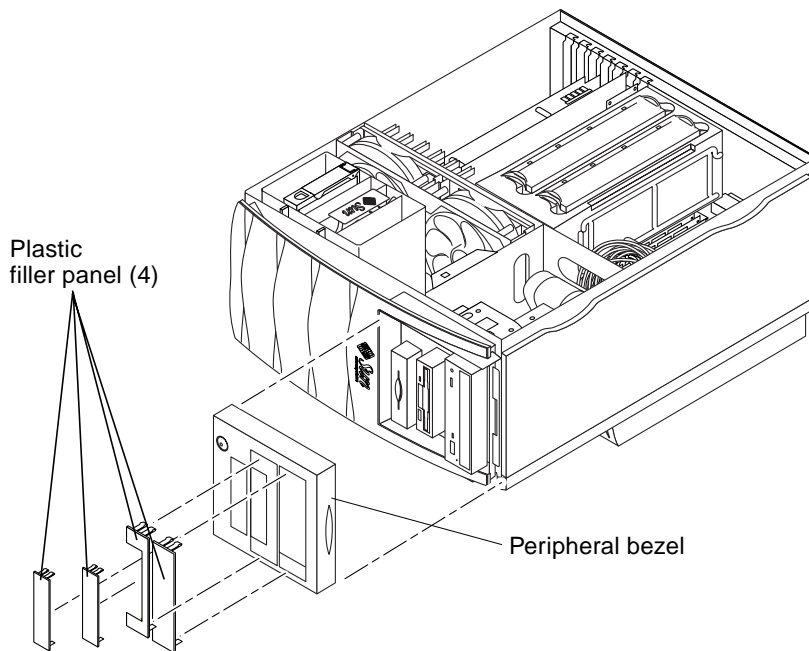

FIGURE 6-18 Removing and Replacing Plastic Filler Panels
2. Remove the peripheral bezel assembly (FIGURE 6-18).
- 2. Position and snap the plastic filler panel into the peripheral bezel assembly (FIGURE 6-18).**